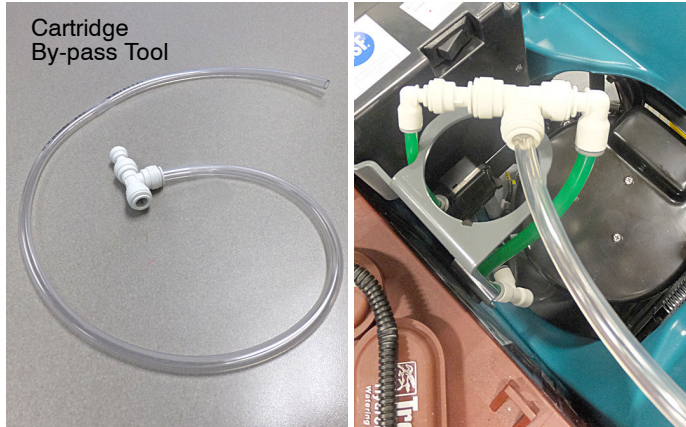

Fig. 44
1. Connect the cartridge by-pass tool, provided separately, to the two green hoses as shown. Route the clear discharge hose to the floor. The use of the cartridge by-pass tool is to prevent activating the ec-H2O water conditioning cartridge during the check process (Figure 44).